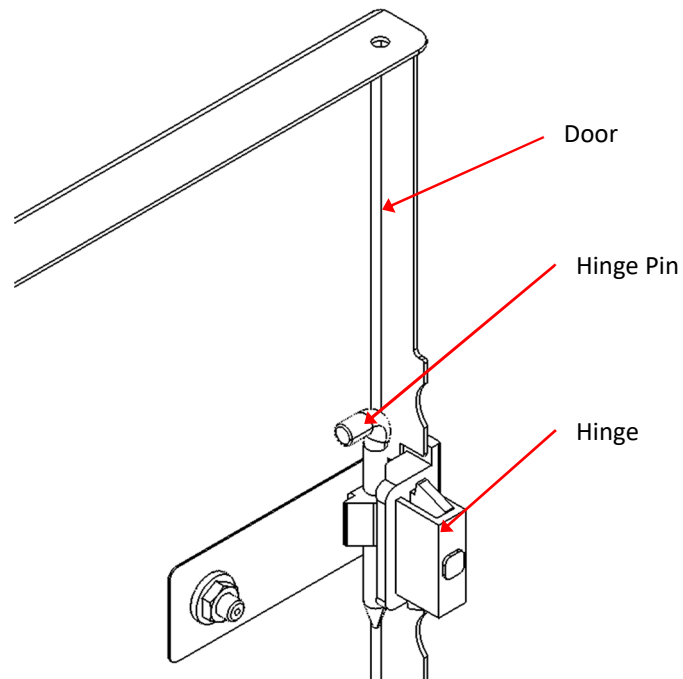

Figure 2-11: Door Hinge and Pin Installation/Removal
6. Release the Door from each Hinge as shown in Figure 2-11.
1. Align the Door to each Hinge as shown in Figure 2-11.